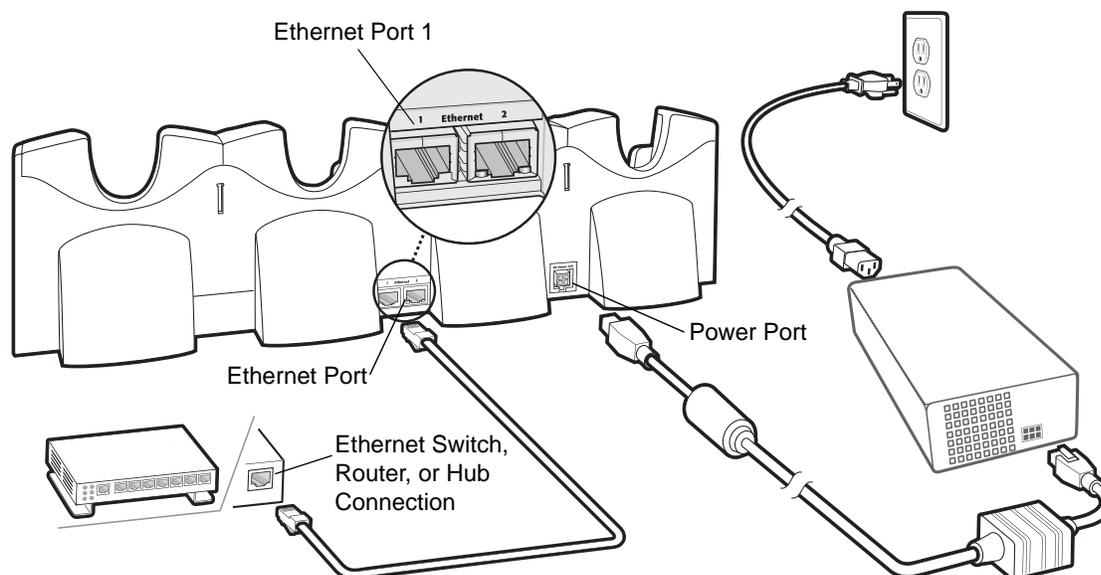

Figure 2-4 Four Slot Ethernet Cradle Connection
2. Connect an Ethernet cable to Port 1 of the first cradle as shown in Figure 2-4.